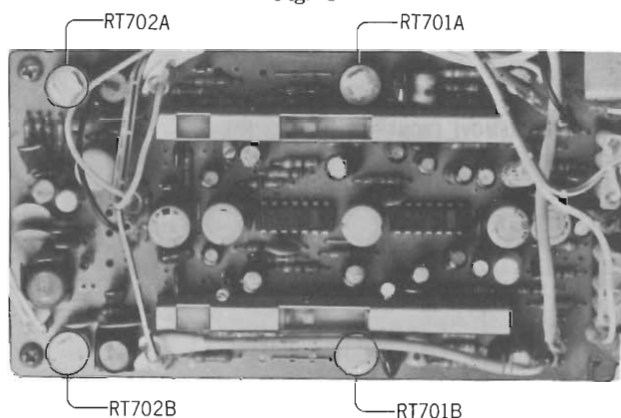

Fig. 4
(2) Adjustment of output voltage
- ① Load instrument with test tape TEAC-MTT-116L (or equivalent).
- ② Observe the output (333Hz tone signal) of the right and left channel with a VTVM connected to the output terminals (See circuit board diagram of ST-3440).
- ③ Adjust RT701A (right channel), RT701B (left channel) for 250mV output (See Fig. 4).
- ③ Adjust RT704A (right channel), RT704B (left channel) for 5mV (See Fig. 4).